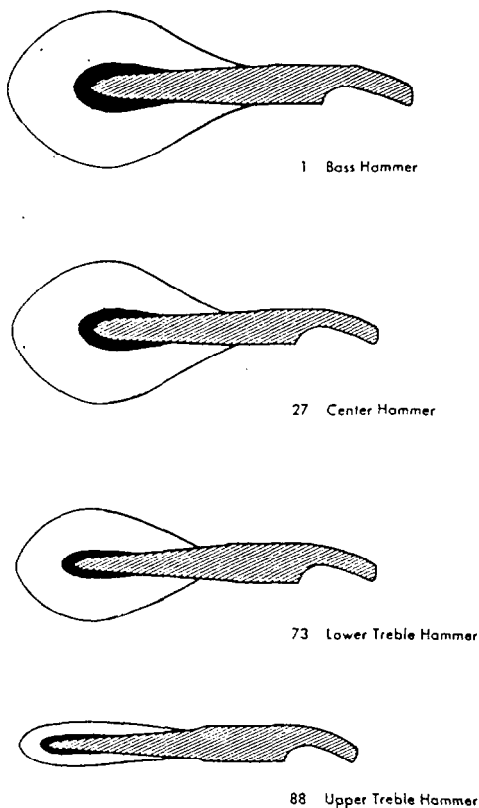

figure 5 (from Steinway)
Sanding and filing are the methods used to remove felt from the hammers for the purpose of shaping them and/or developing the tone quality. The correct shape of hammers is shown in figure 5. The importance of which is to limit the area of hammer/string contact. Hammers that are shaped irregularly can be difficult to voice evenly across the keyboard and will cause the voicing job to be compromised.
1. Check hammers for correct shape. a) Reshape hammers to obtain correct profile and square "face". (see figure 5 and step 3 under "Preparation") b) Chamfer edges of the hammers with the sandpaper file. c) Smooth hammers with #150 and/or #220 sandpaper strips.